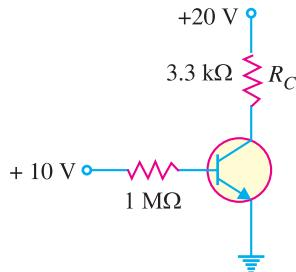

Fig. 8.70
8. Draw the d.c. load line for Fig. 8.70.
9. If the collector resistance  $R_C$  in Fig. 8.70 is reduced to  $1\text{k}\Omega$ , what happens to the d.c. load line?